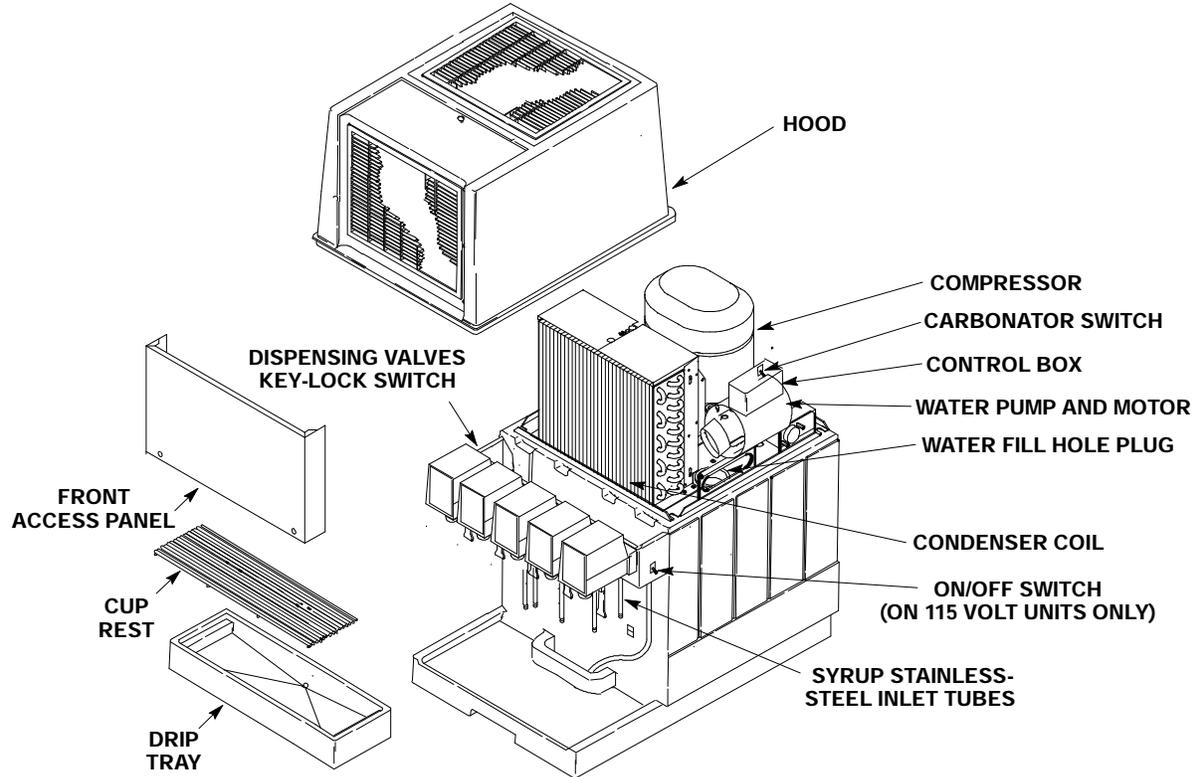

FIGURE 1. PARTS IDENTIFICATION
3. Remove Unit front access panel (see Figure 1) for access to the Unit syrup connecting tubes and for routing water inlet tube to the water pump.